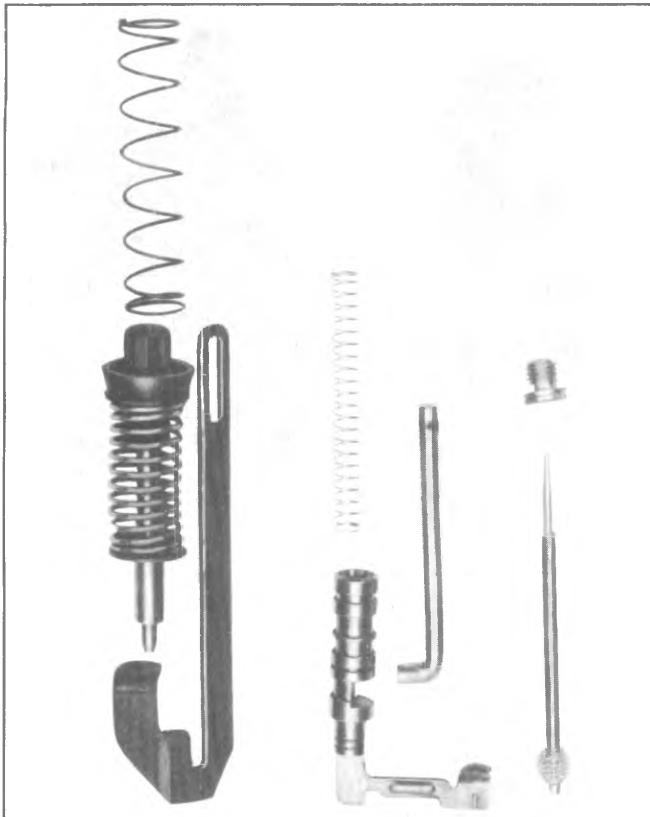

Fig. 6C-22--Metering Rod and Accelerator Pump
9. Remove pump assembly from float bowl (Fig. 6C-22).
10. Remove pump return spring and power piston spring from float bowl (Fig. 6C-22).